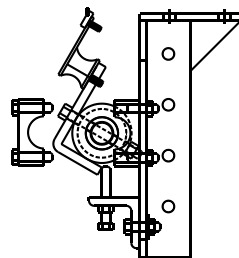
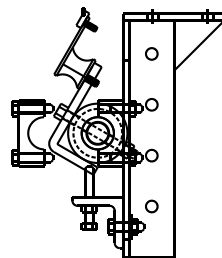
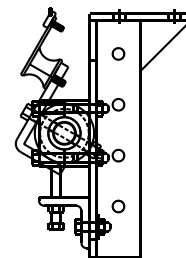

Fig 4
Fig 5
Fig 6
Bolt the support tube clamp to the bracket using the tube clamp lock bolts as shown in Fig. 4 Position the support tube into the fixed half of the support tube clamp as shown in Fig. 5 Bolt the top half of the support tube clamp into place and make sure that the blade tip is perpendicular to the belt as shown in Fig. 6
- 2.) Remove the clamp cap as shown in Fig. 5 to remove the tube from the mounting bracket.